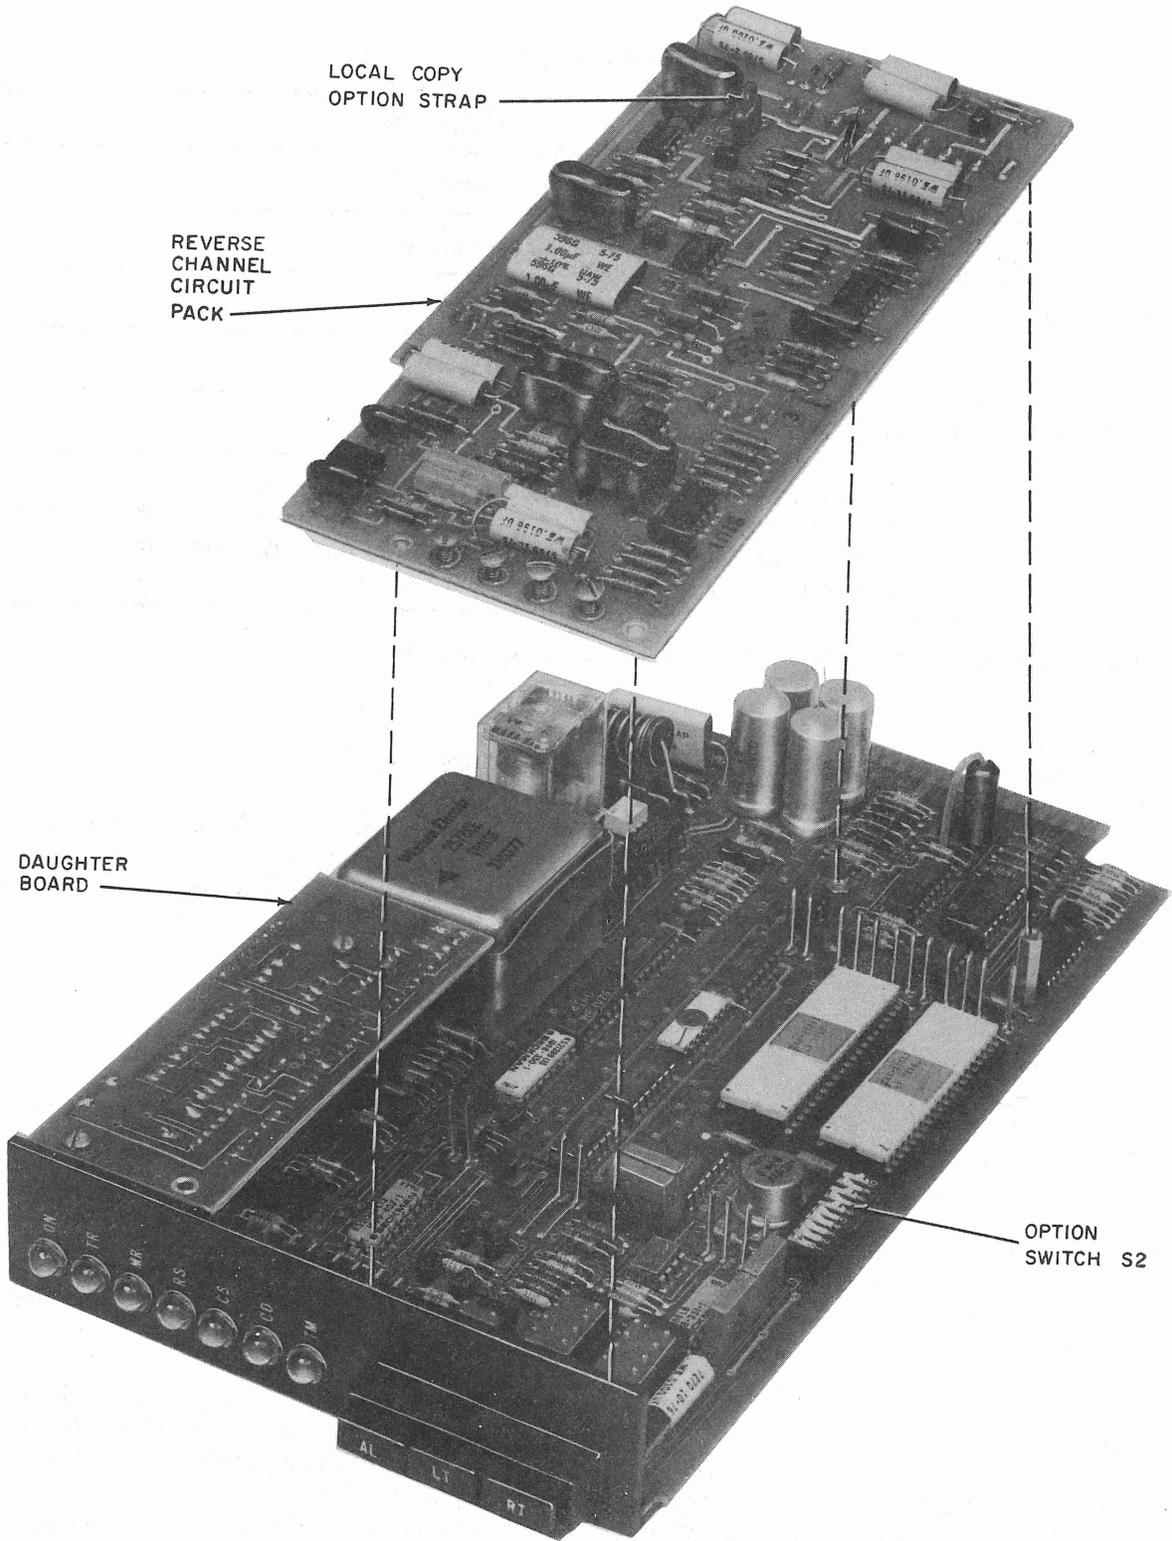

Fig. 3—DS 202SR-L1C/3B
- DS 202SR-L1C/3B: Consists of reverse channel circuit pack JY3B mounted on DS 202SR-L1C as shown in Fig. 3.
2.07 These list codes specify the basic data set with the reverse-channel circuit pack JY3B installed (Fig. 3). The reverse-channel circuit pack JY3B is a printed wiring board 1 in. high, 3.4 in. wide, and 7.5 in. long, and is similar to reverse-channel circuit pack JY3. It includes filters, switching circuits, and demodulator circuits needed to perform the reverse-channel function. Interconnection to